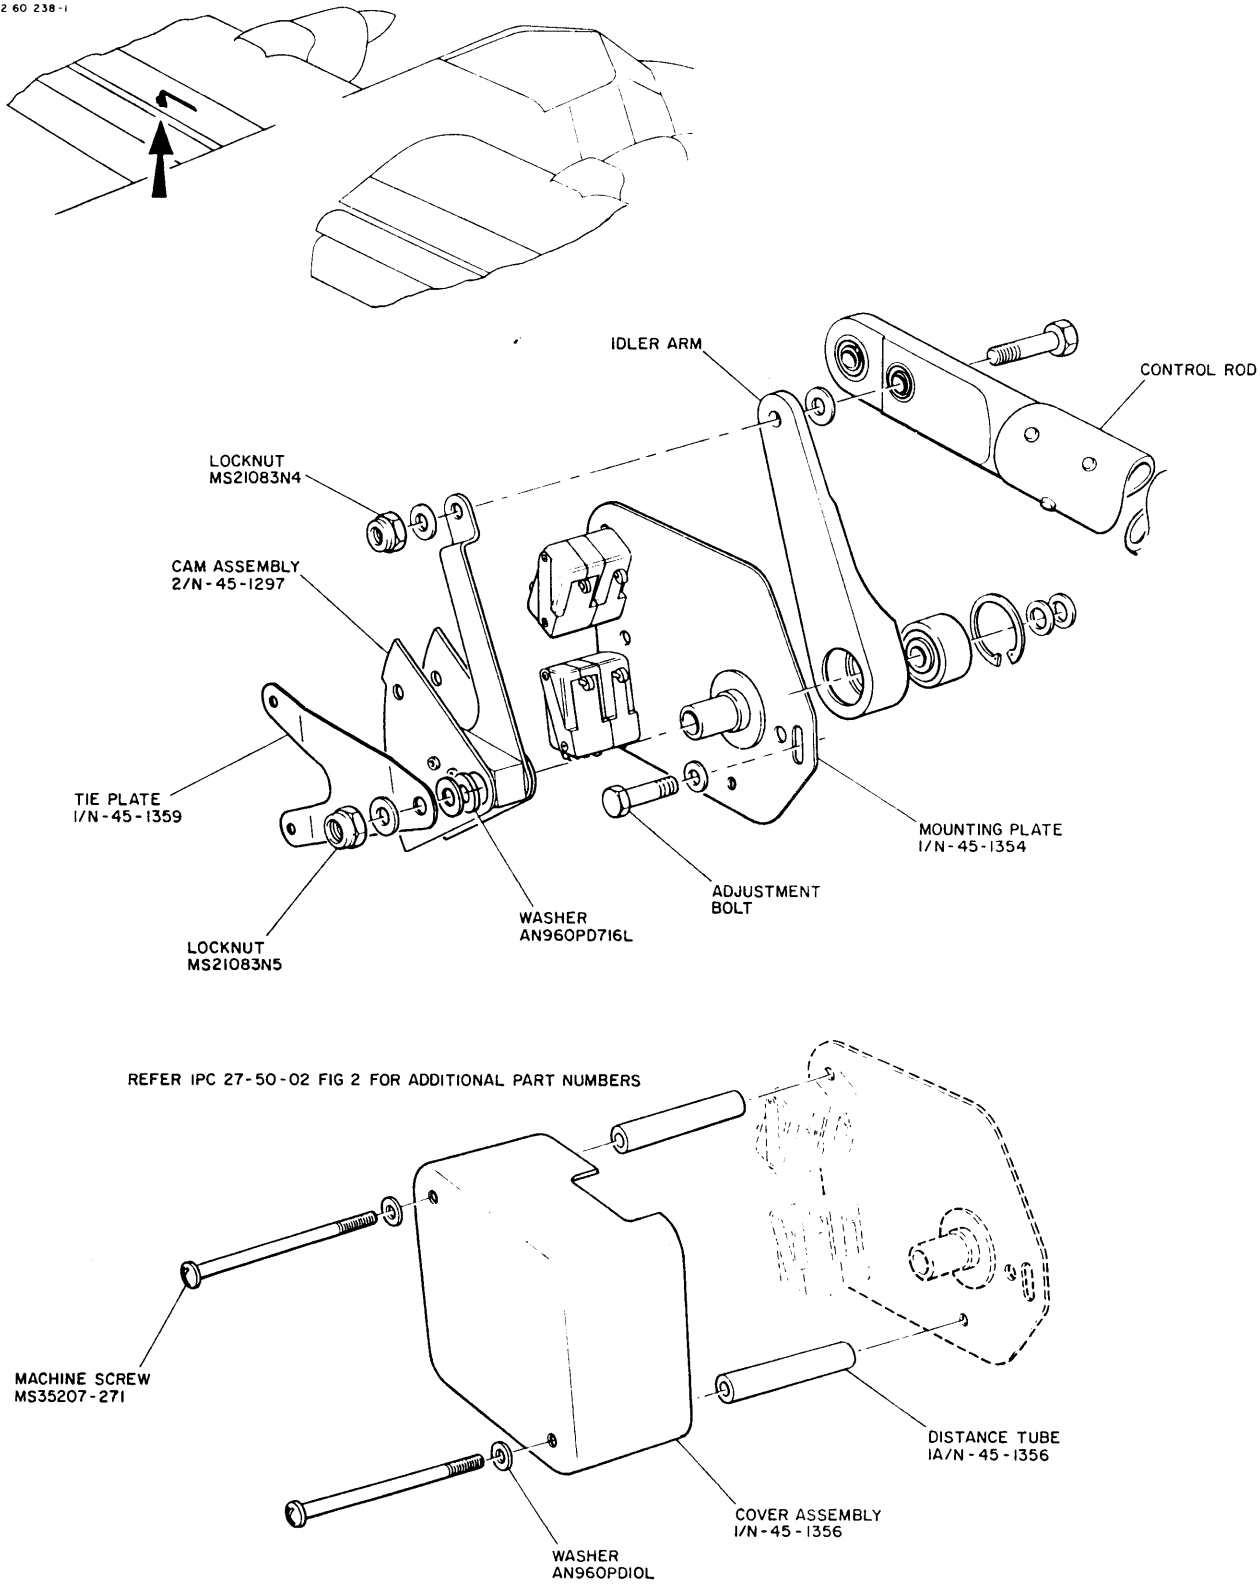

Figure 1 Flap Microswitch Assembly — Installation
- C. Remove the securing nuts and washers at the flap idler arm mounting bolt and idler arm to control rod connection. Remove the tie plate and cam assembly (Ref Fig 1).
- I. Using a new locknut, install the nut and washers attaching the cam assembly and idler arm to the control rod (Ref Fig 1).
- L. With all adjustments completed, extend the flaps and install Cover Assembly 1/N–45–1356 over the microswitch and cam assembly (Ref Fig 1).